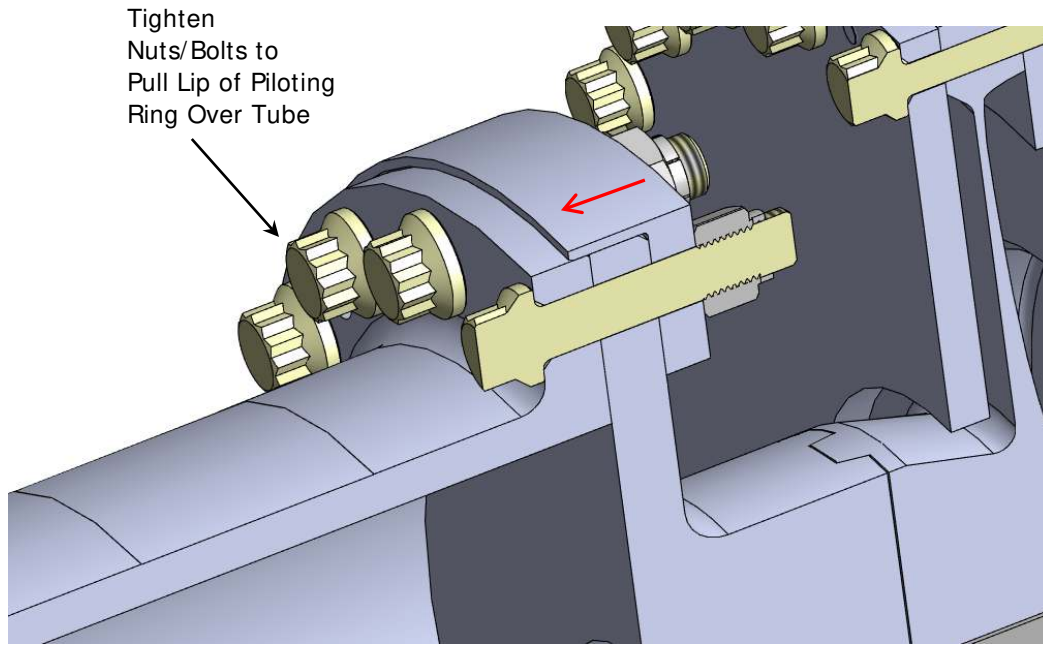

Figure 13 – Piloting Ring Fit Over Tube OD
4.2.3 While supporting the weight of the tube, tighten the bolts/nuts a few turns at a time in a criss-cross pattern to draw the piloting ring over the tube flange evenly (see Figure 13). Install the remaining bolts and nuts and torque evenly in a criss-cross pattern to the torque shown on drawing HC-8088.